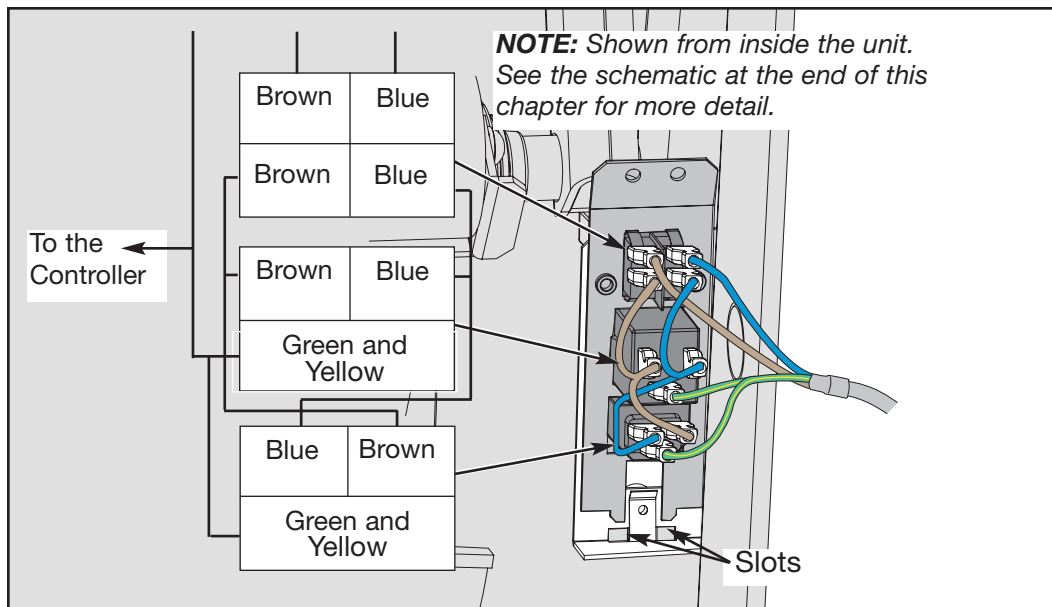

Figure 19
M. Verify the on/off switch is installed properly. See Figure 19.